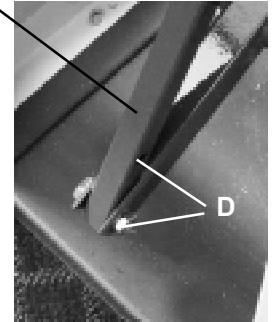

Figure 1b
5. Re-connect the **Tie-rod** at the lower end (**D**) using the **Upper Hole**. (Figure 1b)